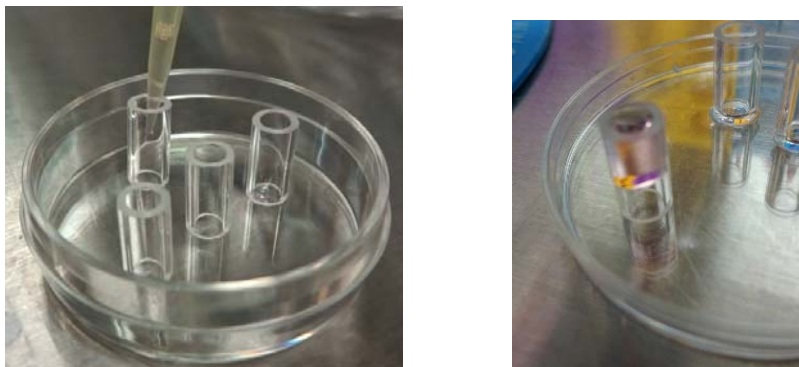

Figure 2. Moisten the inside of the cloning ring (left) and cell suspension stacking in the middle of cloning ring.
3. Moisten the inside of the cloning ring by pouring Neural Plating-XF Medium (Figure 2, left).
- This process will help prevent the cell suspension from stacking in the middle of cloning ring (Figure 2, right).